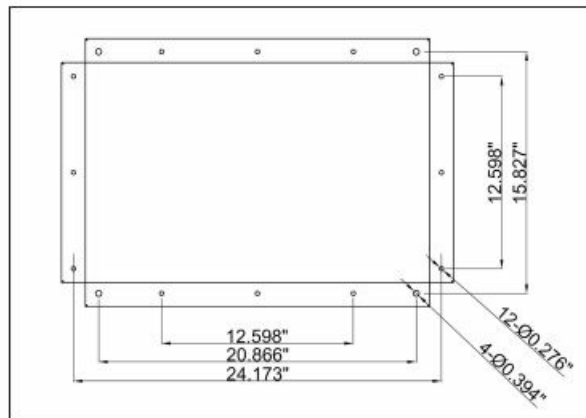
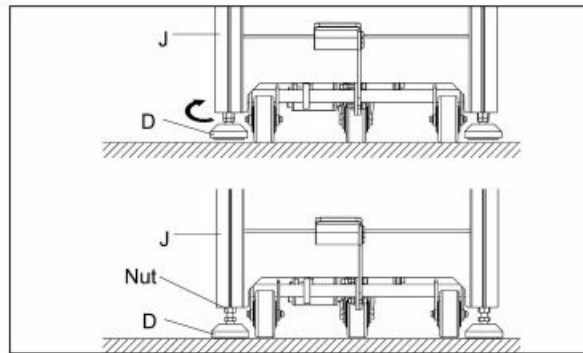

Fig.1
Fig.12
- **Fig.1** shows the dimensions of mounting holes for the upper brackets.
- If you are using the Harvey RT-685/800 router tables, then it can be directly mounted using the holes on both sides of the top bracket (K).
- If you are constructing a customized router table, you can mount the table with any of the available holes located on the top bracket as indicated in Fig.1 of the Specification section.
- **i.** To evenly set the height of the support feet, rotate each of the four feet (D) **CLOCKWISE** by the same number of turns (rotation) until the rollers are slightly lifted up above the ground surface. It is recommended that the rollers be at least 0-2 mm, higher than the ground surface.
- If the ground surface is uneven, then you may need to fine-tune the feet (D) so that the table is leveled accordingly. You may need a leveler to ensure that the table is properly leveled. Once the height is properly
set, tighten the nut on the feet (D) up against the legs as shown in Fig.12 to ensure the height is fixed at a set height.